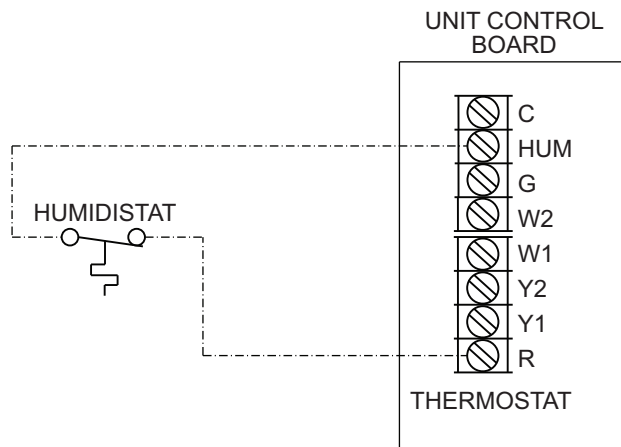

Fig. 33 — Humidistat Connections to UCB
3. Connect one of the leads from the 2-conductor cable to the HUM terminal on the UCB (Unit Control Board). Connect the other lead to the R terminal on the UCB. See Fig. 33.